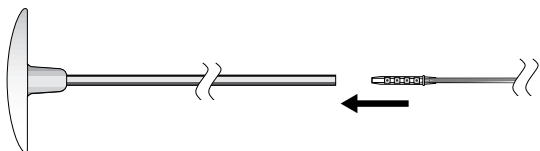

Figure 10. Slide the extension into the extension passer.
- Carefully insert the lead end of the extension into the extension passer and slide it through until it exits at the handle or until fully encompassed by the extension passer (Figure 10).